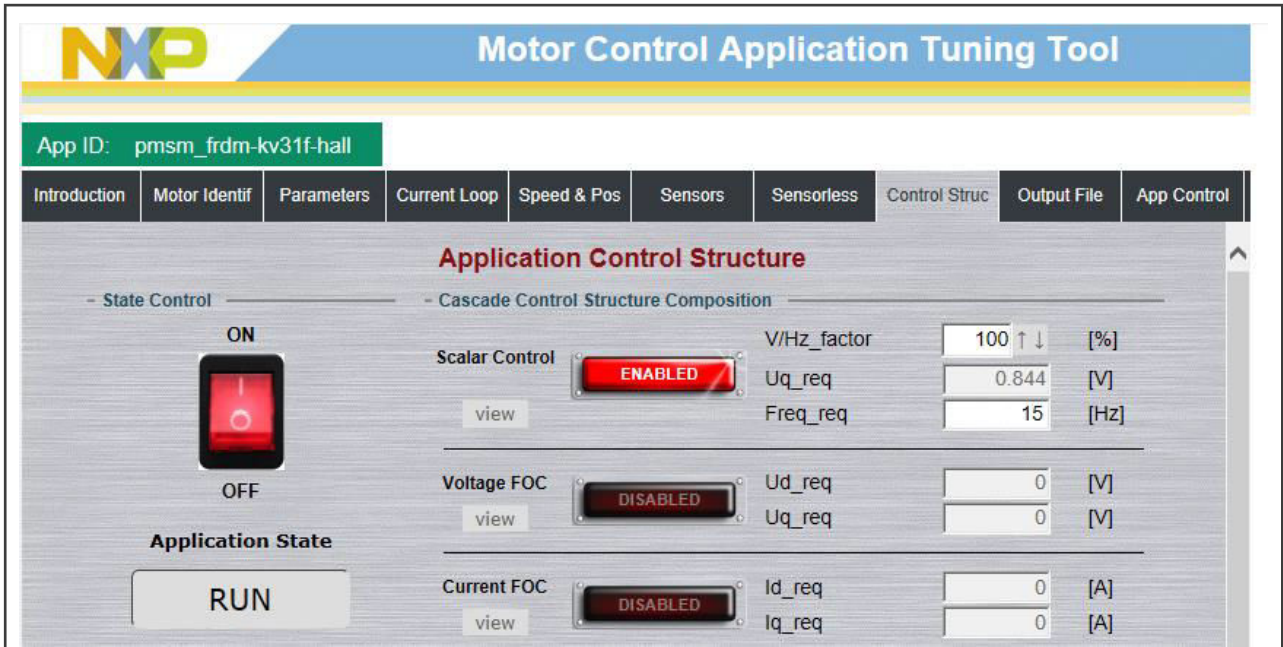

Figure 35. MCAT scalar control
- Set the required frequency value in the “Freq_req” field; for example, 15 Hz in the “Scalar Control” section. The motor starts running (Figure 35).